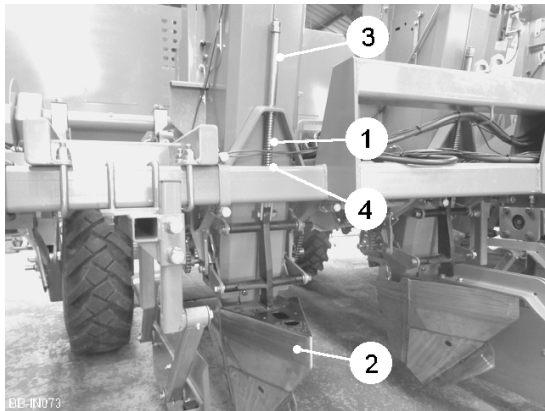
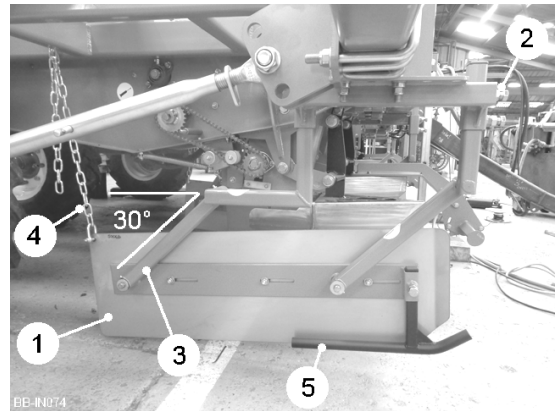

Fig 7
Fig 8
The bottom spring (item 1, fig 7) allows the opener (item 2, fig 7) to ride over obstructions reducing damage to the planter. The top spacer (item 3, fig 7) carries the weight of the opener and prevent it from 'nose diving' in soft soil. The bottom spring should be set to allow the ground pressure during work to lift the opener into the working position. To adjust, reposition the locknuts (item 4, fig 7). On machines fitted with opener depth wheels, the bottom springs should be released to allow the depth wheel to float freely and the top springs should be set to allow 25mm (1") of free downward movement during work.
The soil retention panels (item 1, fig 8) prevent soil from flowing into the wheelings from the openers.
Vertical adjustment is provided to allow the panels to be raised / lowered to match wheel height. To adjust the height loosen the front and rear leg retaining screws (item 2, fig 8) and raise / lower the legs to the required position. Ensure the panel runs parallel with the ground. The angle at which the pivot arms (item 3, fig 8) operate should be approximately 30° from horizontal allowing the panels to ride the contours of the ground. The depth chains (item 4, fig 8) should be adjusted to allow the panels to float when in work but prevent them from dropping too low when the planter is lifted out of work. The skids (item 5, figure 7) are fitted to assist the soil retention panels in riding over the ground. The skid should be set slightly below the bottom edge of the panel.